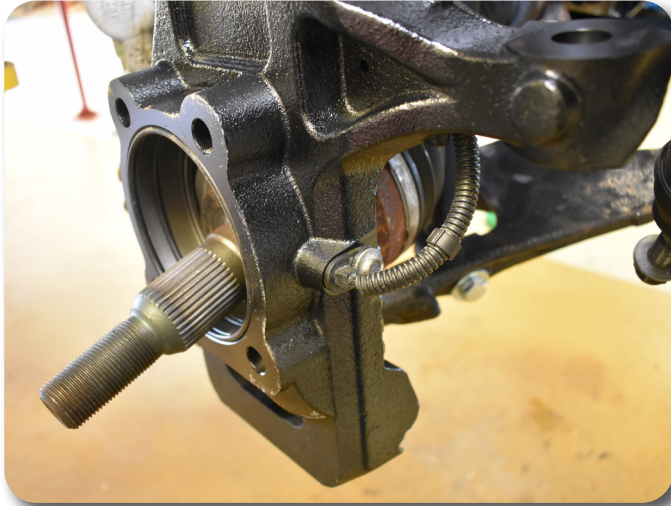

Figure 39
54. Install the ABS sensor into the steering knuckle using the factory bolt and thread locker Figure 39. Torque to 10 ft-lbs.